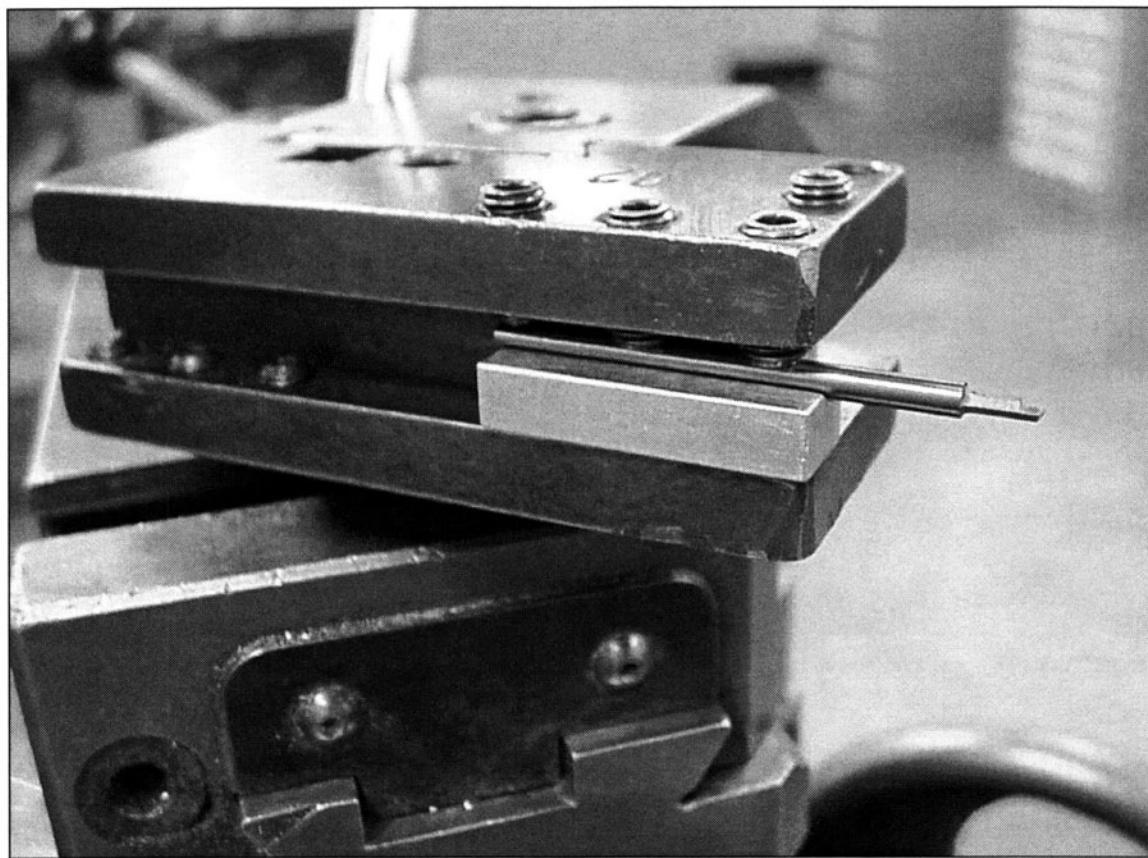

FIGURE 3-6 A small V-block is used to nest a boring bar in this lathe tool holder.
10. *Use a small V-block to hold a small round boring bar in a lathe tool holder. (See Fig. 3-6)*